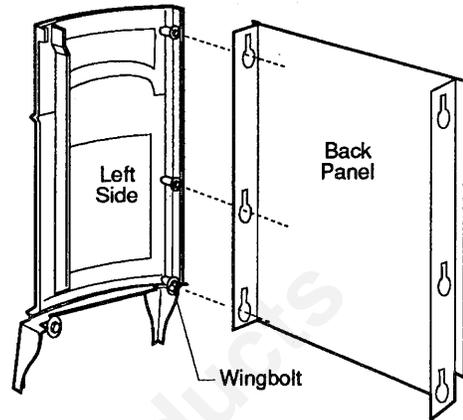

Figure 3. Secure the Left Side to the Back Panel.
Step 1. Attach the Back Panel to the Left Side Plate by aligning the key holes in the shroud with the bolts in the Side. Fig. 3. Slide the shroud panel downward to engage it behind all three washers on the side plate and then tighten the lower wingbolt.